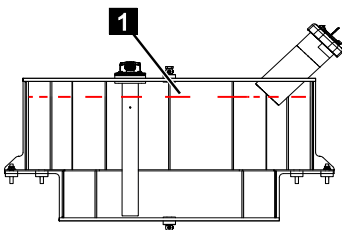

Fig. 168
5. Fill the fuel tank without exceeding the indicated maximum filling level (Fig.168/1).